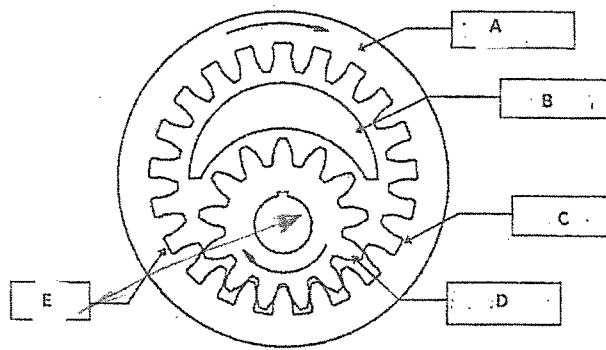

FIGURE 5
- 4.4 FIGURE 5 Diagram SHEET 3 (attached) shows a sectional sketch of oil pump.
- 4.4.1 Name the type of oil pump shown in FIGURE 5. (1)